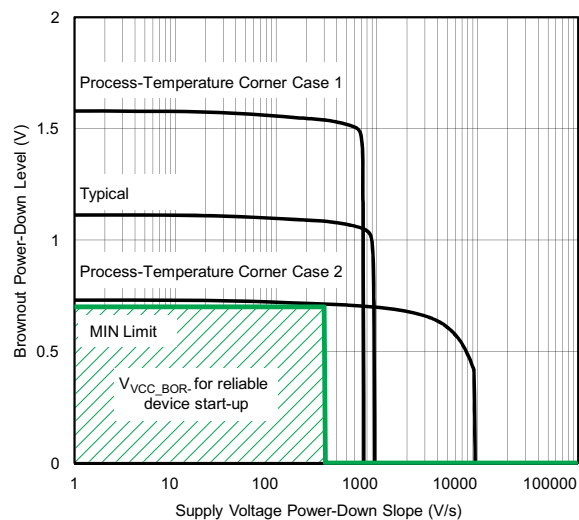

Figure 4-6. Brownout Power-Down Level vs Supply Voltage Down Slope
- (1) In case of a supply voltage brownout, the device supply voltages must ramp down to the specified brownout power-down level (V_{VCC_BOR-}) before the voltage is ramped up again to ensure a reliable device start-up and performance according to the data sheet including the correct operation of the on-chip SVS module.
- (2) Fast supply voltage changes can trigger a BOR reset even within the recommended supply voltage range. To avoid unwanted BOR resets, the supply voltage must change by less than 0.05 V per microsecond ($\pm 0.05 \text{ V}/\mu\text{s}$). Following the data sheet recommendation for capacitor C_{DVCC} should limit the slopes accordingly.
- (3) The brownout levels are measured with a slowly changing supply. With faster slopes, the MIN level required to reset the device properly can decrease to 0 V. Use the graph in Figure 4-6 to estimate the V_{VCC_BOR-} level based on the down slope of the supply voltage. After removing V_{CC} , the down slope can be estimated based on the current consumption and the capacitance on DVCC: $dV/dt = I/C$ where dV/dt = slope, I = current, C = capacitance.
- (4) The brownout levels are measured with a slowly changing supply.